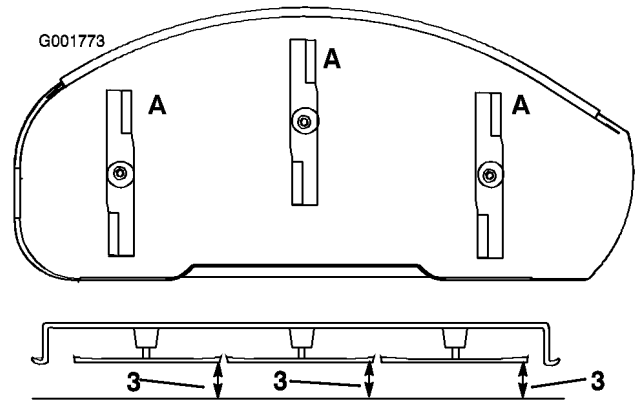

Figure 37
1. Rotate the blades until the ends face forward and backward (Figure 37). Measure from a level surface to the cutting edge, position A, of the blades (Figure 37). Note this dimension.